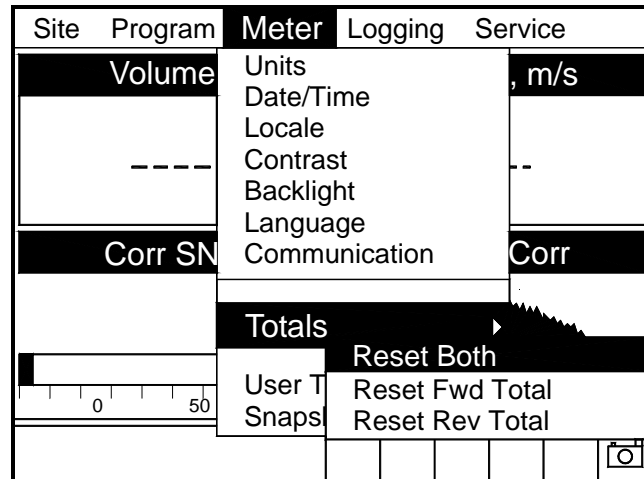

Figure 4-6: Resetting Totals Menu
1. From the Meter menu, scroll to the Totals entry and press [ENTER]. The window now appears similar to Figure 4-6 below.